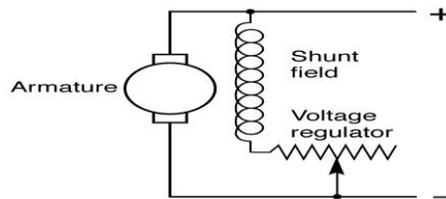

Fig. 4.8
2. **Self excited generator:** This type of generator, the field winding is excited by a part of the current produced by itself as shown in fig. 4.8